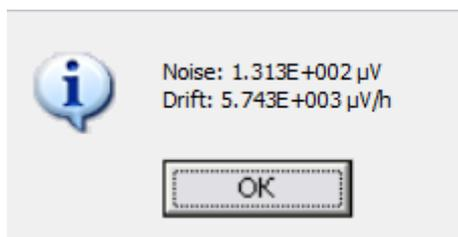

Fig. 43: Calculated Noise and Drift
2. Select the start and the end of the analysis section. A window opens with noise and drift values (Fig. 43).